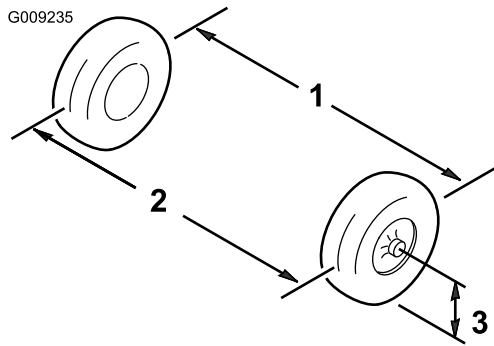

Figure 54
3. Measure the distance between both of the front tires at the axle height at both the front and rear of the front tires (Figure 54).